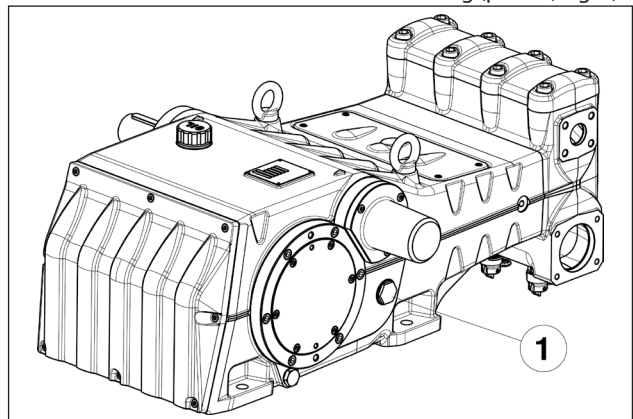

Fig. 8
5. Oil in the pump casing is at the required level, verified with the level indicators at the sides of the casing (pos. ①, Fig. 8).